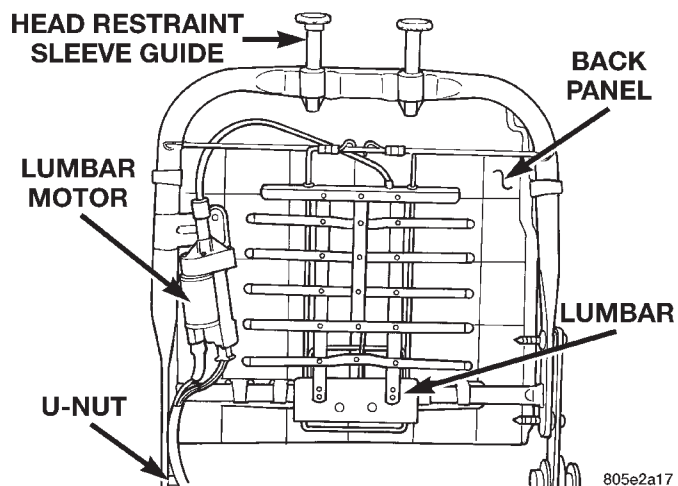

Fig. 7 Power Lumbar Adjuster/Motor
(1) Remove the power recliner adjuster and motor from the seat back frame as described in this group.
(2) Remove all of the seat back trim from the seat back. Refer to Group 23 - Body Components for the procedures.
(3) Replace the seat back frame assembly with the lumbar adjuster and motor (Fig. 7).